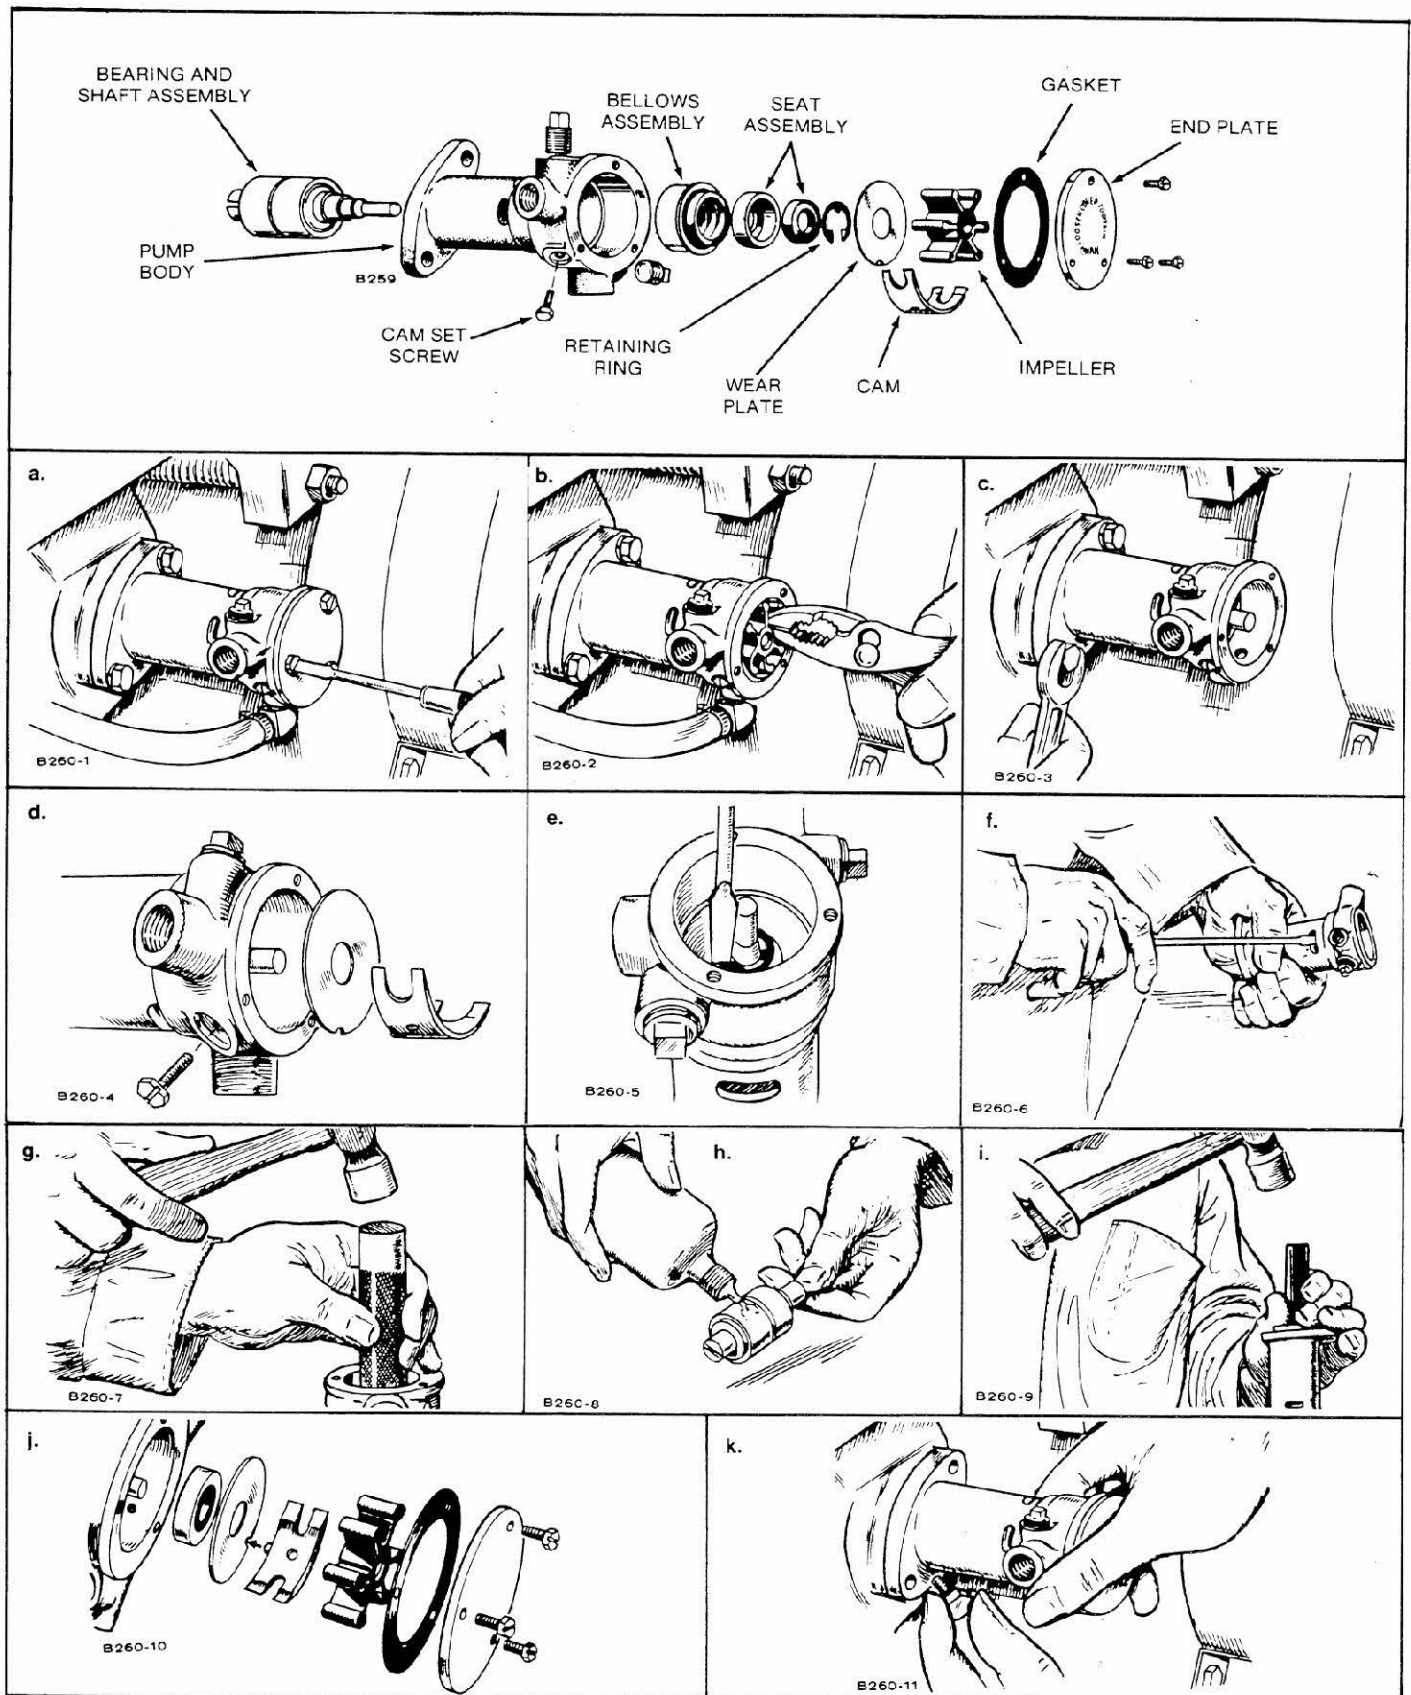

FIGURE 26. PUMP 131-0165
1. Remove the pump end plate screws, end plate, and gasket as shown in Figure 26 (Step a).